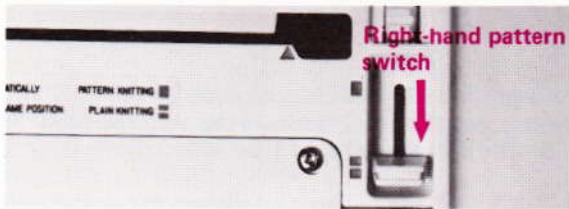

Fig. 23
- Push the right-hand pattern switch on to 'plain knitting' (fig. 23).